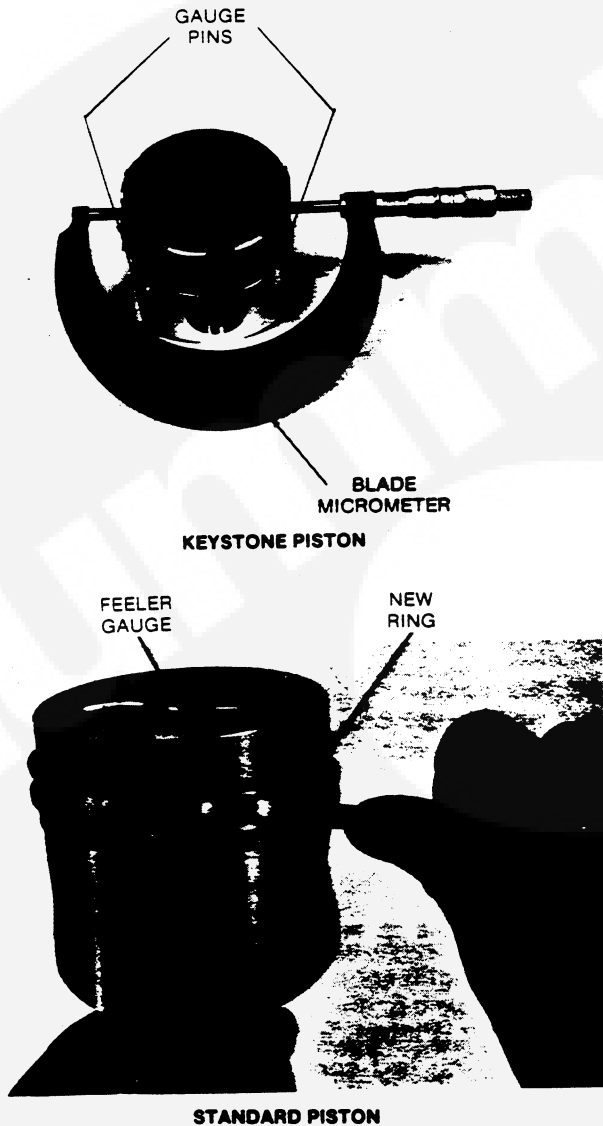

FIGURE 29. CHECKING RING SIDE CLEARANCE
- A. Check for ring groove wear by installing a new ring in top ring groove. Insert a feeler gauge between new ring and the land to check clearance (Figure 29). Keystone ring groove wear must be checked using special gauge pins (Figure 29).